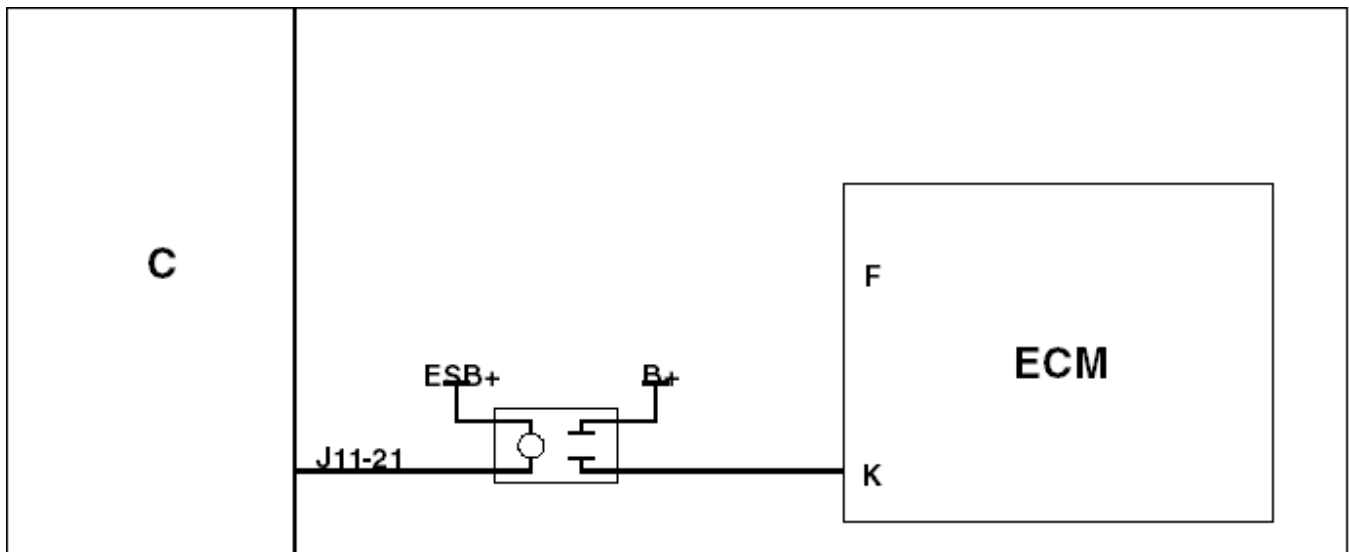

FIGURE 84. KEYSWITCH CONNECTIONS WHEN ECM DOES NOT CONTROL FUEL SHUTOFF SOLENOID
- Figure 84. Keyswitch Connections When ECM Does Not Control Fuel Shutoff Solenoid 457